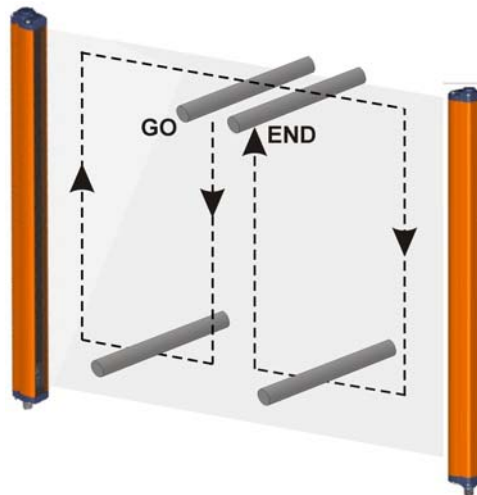

Fig. 12
- ESPE remains blocked (➡|) intercepting the beams along the protected area using the specific test piece, following the Fig.12 scheme.